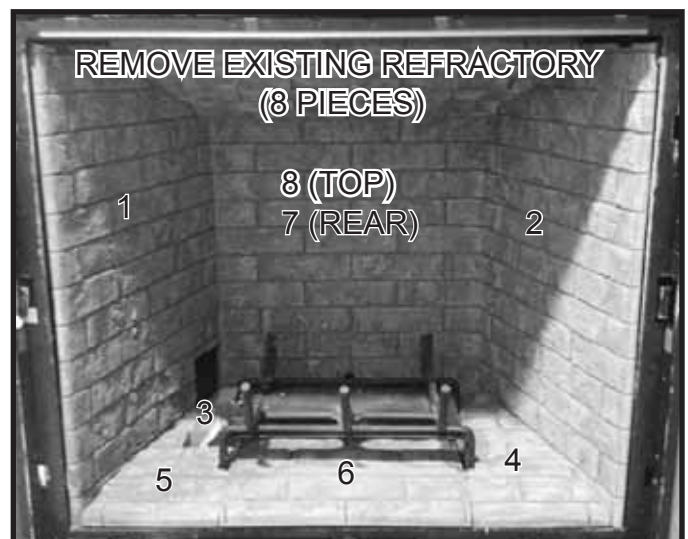
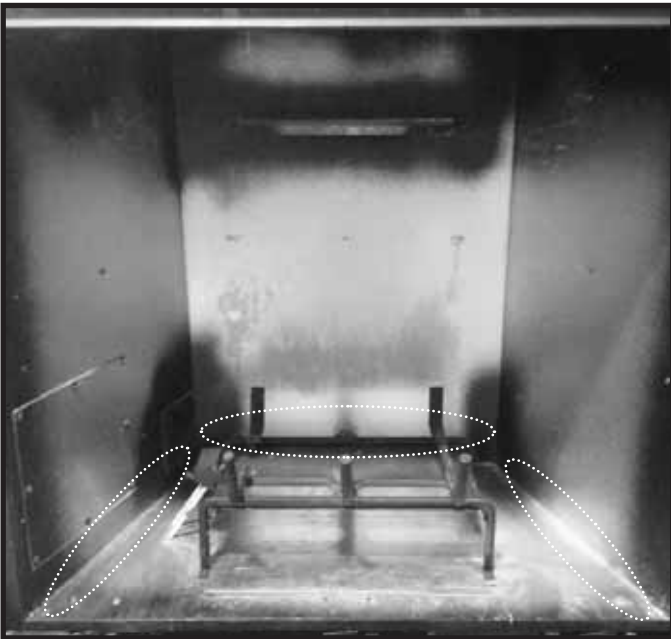

Figure 1. Firebox Including Refractory
Figure 2. Firebox
It will be necessary to remove the existing refractory panels and base refractory prior to beginning installation of the new components. See Figure 1. Once those components are removed the firebox will look similar to Figure 2.
1. Examine the firebox and be sure that the corners are free from debris. There could be issues with fit up of refractory if firebox is not clear of debris. See Figure 2.